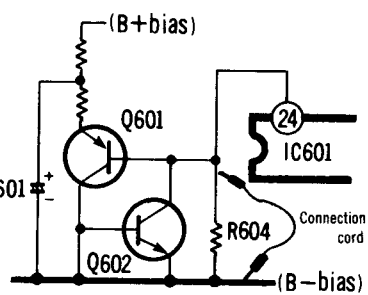

Fig. 17
<p>Fluorescent meter [TAPE [2]]</p> <p>Condition:</p> <ul style="list-style-type: none"> Record mode Input level controls ... MAX <p>Equipment:</p> <ul style="list-style-type: none"> VTVM AF oscillator ATT Resistor (600Ω) 	<p>1. Test equipment connection is shown in fig. 17.</p> <p>2. Short R604 by connecting a connection cord across it, as shown in fig. 17, to stop oscillation of the astable multivibrator consisting of Q601 and Q602.</p> <p>3. Supply 1 kHz signal (-24dB) to the LINE IN then press the record button.</p> <p>4. Adjust the ATT so that the output level at LINE OUT becomes 0.4V (The input level at this condition is termed the standard input level).</p> <p>5. Adjustment at "-20 dB":</p> <p>A. Adjust the ATT so that the input level is -20dB below standard recording level.</p> <p>B. Adjust VR601 so that the -20dB segment lights up in the -20 ± 0.8dB range (L-CH only) (See fig. 18).</p> <p>6. Adjustment at "0dB":</p> <p>A. Adjust the ATT so that the output level at LINE OUT becomes 0.4V (The input level at this condition is termed the standard input level.)</p> <p>B. Adjust VR602 so that the +1dB segment lights up in the 0 ± 0.2dB range of the standard input level (See fig. 19).</p> <p>7. Repeat twice between steps (5) and (6) above.</p> <p>8. Adjust ATT and check that all segments lights up when an input signal level is increased to 10dB higher than the standard input level (See fig. 20).</p>  <p>Fig. 17</p>  <p>Fig. 18</p>  <p>Fig. 19</p>  <p>Fig. 20</p>
on is shown in fig. 17.